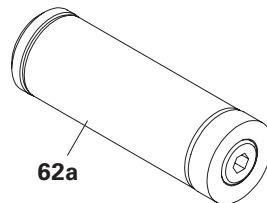

Fig. A10.04a
- Stopper MX18-75 OF-S (Fig. A10.04a)